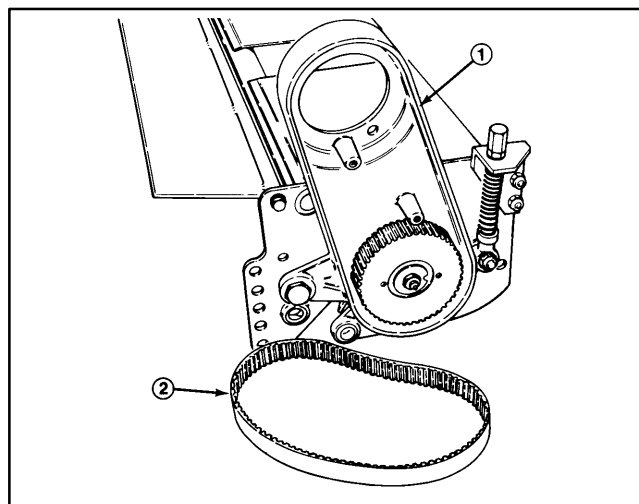

Figure 22
4. Disassemble cone nut from the shoulder bolt securing the bearing housing to the side plate. Remove belle-ville washer and bolt. Slide bearing housing off the reel shaft (Fig. 22).
5. Disassemble cone nut from the shoulder bolt securing the bearing housing to the side plate, remove the belleville washer and bolt and slide the bearing housing off the reel shaft (Fig. 22).
10. Ensure slot in the pulley washer is aligned with the roll pin in the pulley and install the washer, toothed washer and reel capscrew (Fig. 22). Apply a medium strength thread locking compound to the reel capscrew during assembly. Torque the capscrew to 45 to 55 ft-lb (6.2 to 7.6 kg-m).